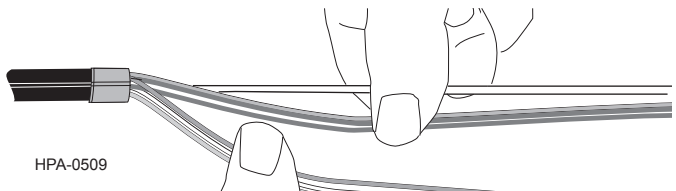

Figure 26
Step 12: Working from the switch back center back to the tape wraps, carefully unwind the buffer tubes from around the central member of the cable (Figure 26). Be careful not to bend or kink any of the buffer tubes.